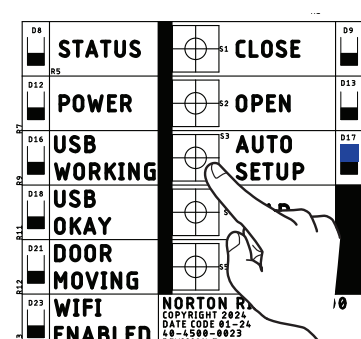

Figure 3
- The door will open and close in small increments three (3) times. Allow door to open and close without interference. (Figure 3)